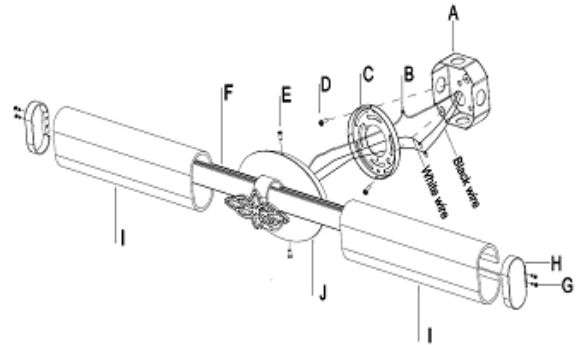

Fig.2
## CONNECTING THE WIRES (FIG. 2)
3. At this point, connect the electrical wires as shown in Fig. 2, making sure that all wire connectors(B) are secured. If your outlet has a ground wire (green or bare copper), connect the fixture's ground wire to it. Otherwise, connect the fixture ground wire directly to the mounting plate (C) using the green screw provided. After wires are connected, tuck them carefully inside the junction box.
4. Align the fixture's back plate (J) over the mounting back plate (C) and secure with screws (E).